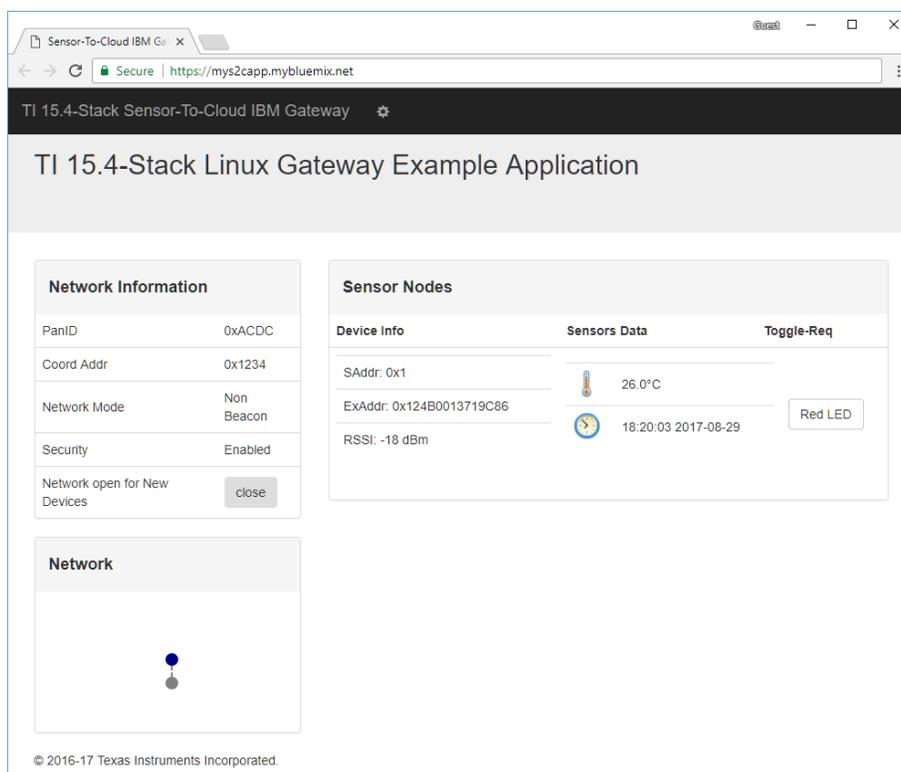

Figure 33. TI 15.4-Stack Linux Gateway Example Application
6. The web page should automatically update, as shown in Figure 33.